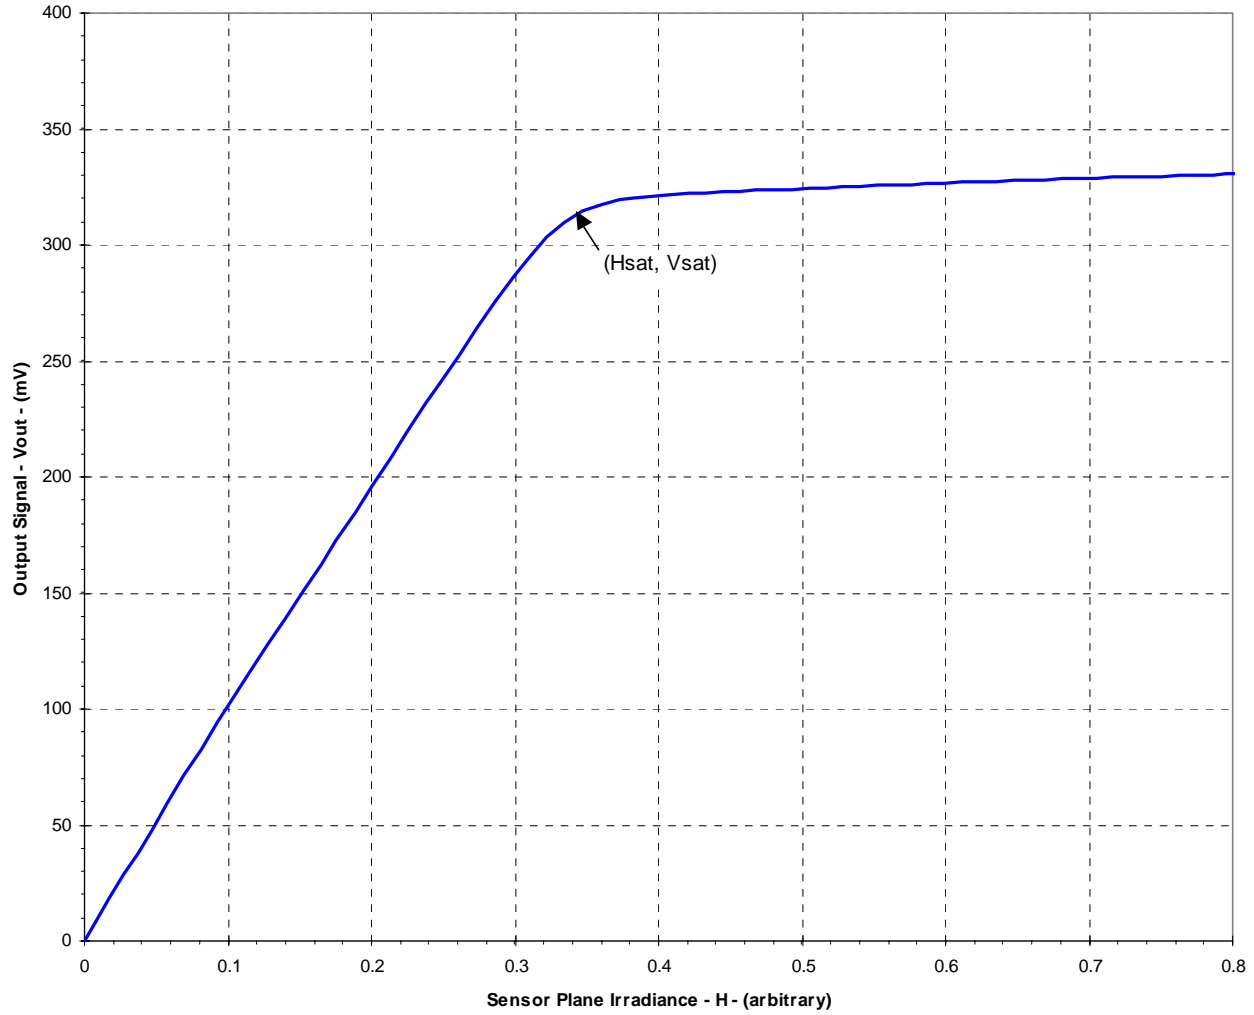

Figure 7: Typical KAI-0330 Photoresponse
6. Xab represents the increase above the saturation-irradiance level (Hsat) that the device can be exposed to before blooming of the vertical shift register will occur. It should also be noted that Vout rises above Vsat for irradiance levels above Hsat, as shown in Figure 7.